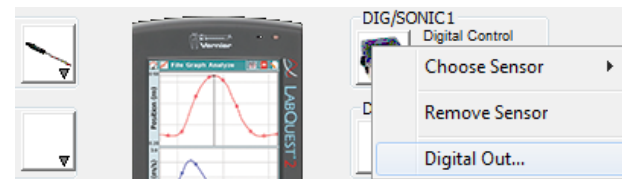

Figure 6 Digital port drop-down menu in *Logger Pro*
4. From the Digital Out dialog box, you can also choose when to activate the digital output. As shown in Figure 6, the dialog box includes two radio buttons: